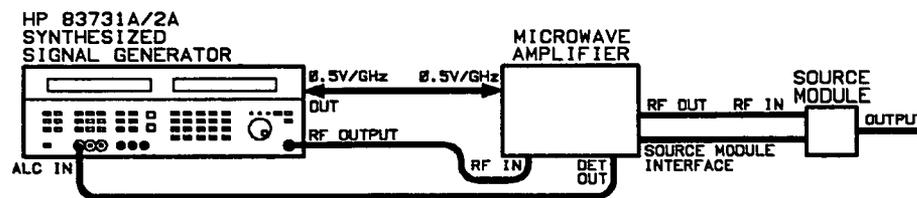

Figure 3-14. Millimeter-Wave Equipment Setup
1. Connect the equipment as shown in Figure 3-14: